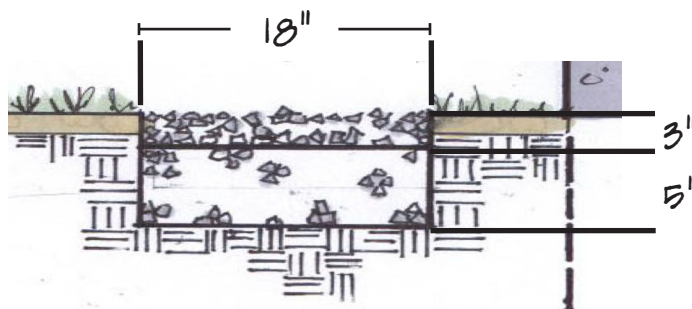

Figure 1. Profile for well drained soils.
*For Well Drained Soils:* Fill the bottom 5" of trench with  $\frac{1}{2}$ " to  $1\frac{1}{2}$ " crushed stone. Fold a piece of non-woven geotextile fabric over the stone layer and fill the remaining 3" with additional stone (Figure 1).